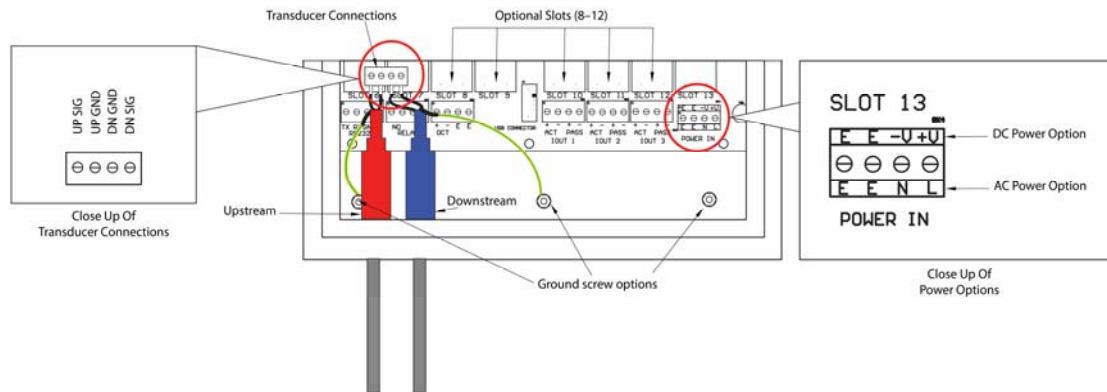

Figure 5. 207i AC and DC Power Options: Minimum Required Wiring
- Option P2: DC Powered 9-36 VDC, 0.5 Amps. (See Figure 5 DC power-option).
- Option P3: AC Powered 100-240 VAC, 50-60 Hz, .5 Amps. (See Figure 5 AC power-option).
- Open the hinged top cover of the electronics (see Figure 5). The power input terminal block is labeled POWER IN. On the AC power unit, it is labeled E E N L, and on the DC powered unit it's labeled E E -V +V (See Figure 5).
AC power connections; L to AC Line (hot), N to Neutral, E to safety Earth ground; 100-240 VAC, 50-60 Hz, .5 Amps (See Figure 5). If the AC mains wiring is not installed in conduit, a ferrite core should be installed (CE requirement) just inside of the enclosure with 2 turns (3 passes) of the AC wiring thru it. Ferrite core Wurth Electronics pn 74270095/Digi-Key pn 732-1564-ND or similar should be used.
DC power connections; V+ to DC plus, V- to DC power return, The E connections are optional Earth ground; 9-36 VDC at 0.5 Amps (See Figure 5).
Connect the upstream (Red) transducer white wire to the UP SIG terminal on the ultrasonic board, and the black wire to the UP GND terminal. The Green/Yellow wire is the Earth Ground wire. It attaches to the enclosure ground screw as shown (See Figure 5).
Connect the downstream (Blue) transducer white wire to the DN SIG terminal on the ultrasonic board, and the black wire to the DN GND terminal. The green/yellow wire is the Earth Ground wire. It attached to the enclosure ground screw as shown (See Figure 5).